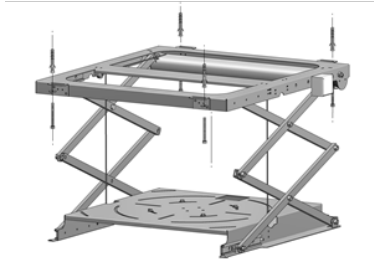

Fig 1
1. Assemble the base of the lift to the structural ceiling using screws and rawplugs adequate to ceiling type (assembly points are shown on the image below). Remember to prepare an adequate opening in the suspended ceiling for the installation.(Fig. 1)